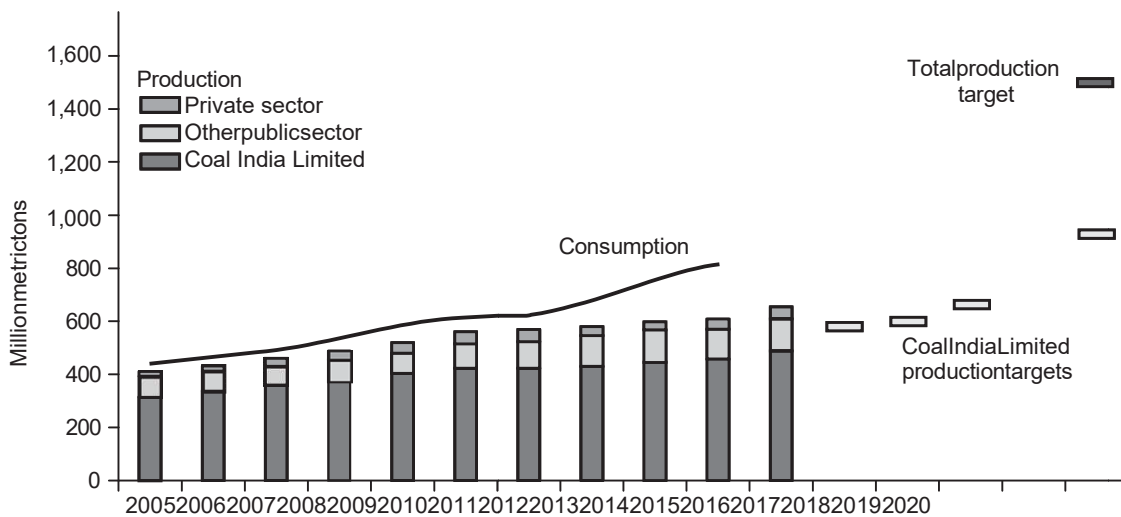

Fig. 1.3.1 India's coal consumption, production and production targets
- Coal consumption in India for electricity generation is shown in Fig. 1.3.1.